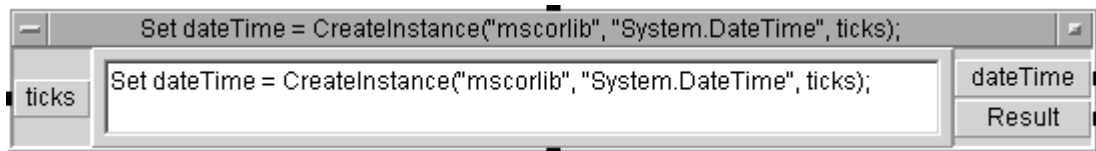

Figure 166 Creating a .NET Object
- 3 To create a .NET object, select a Constructor (constructors and methods share this icon ) in the member list. As in the previous graphic, the Create Instance button is available. Selecting this button generates a formula template for creating a new .NET object. Note the dateTime output pin in Figure 166 that is generated by VEE. You may connect this output pin to the input pin of any formula box that requires this .NET object as input. See “Lab 7-3: Using .NET to Get File Information” on page 309 for an example.